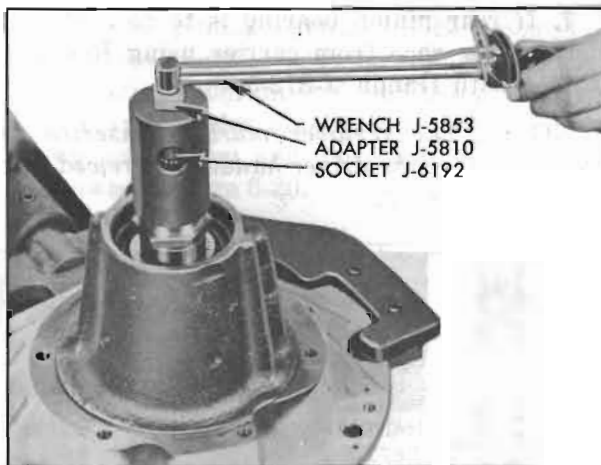

Figure 6-27—Checking Pinion Bearing Pre-Load
5. Rotate pinion three or four times to seat bearings. Turn pinion slowly with an inch pound torque wrench; bearing pre-load should be 10 to 30 inch pounds. See Figure 6-27. If pre-load is under 10 inch pounds, replace spacer with a thinner one; if pre-load is over 30 inch pounds, remove pinion nut and front bearing and replace pre-load spacer with a thicker one. These spacers are furnished to be used in pairs